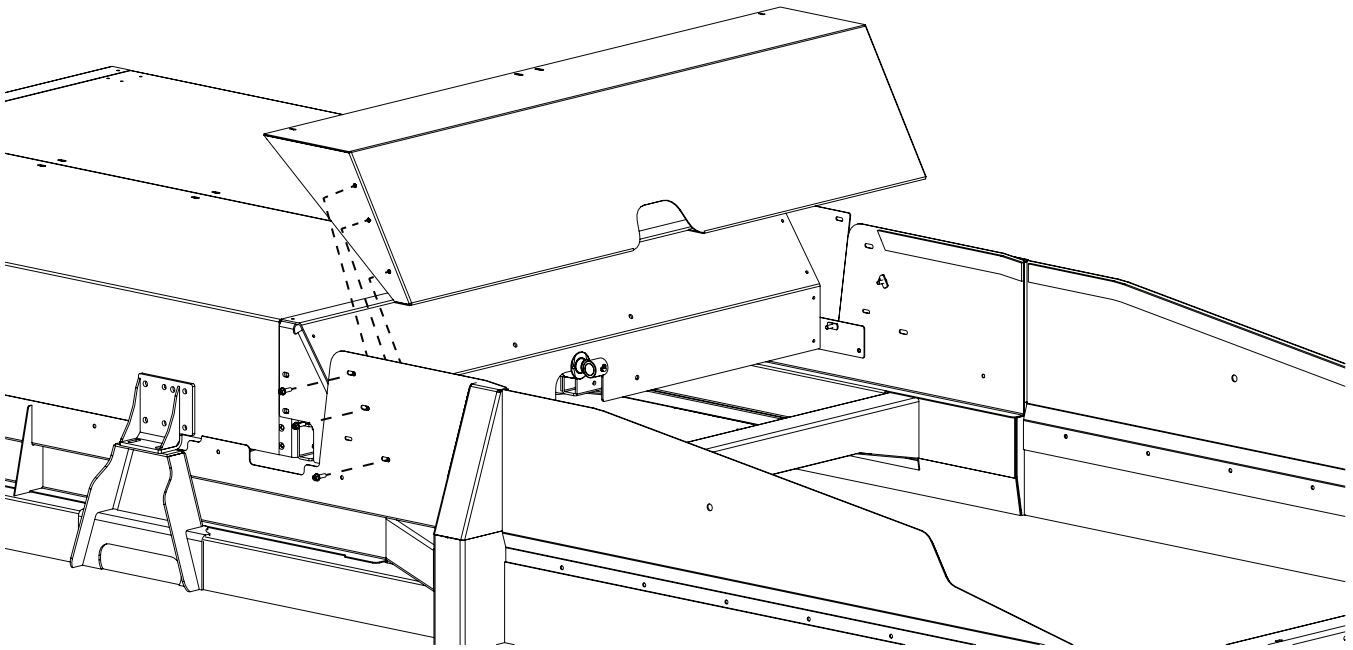

Figure 1
3. Remove and discard the existing deflector and hardware from both sides (Figure 1).